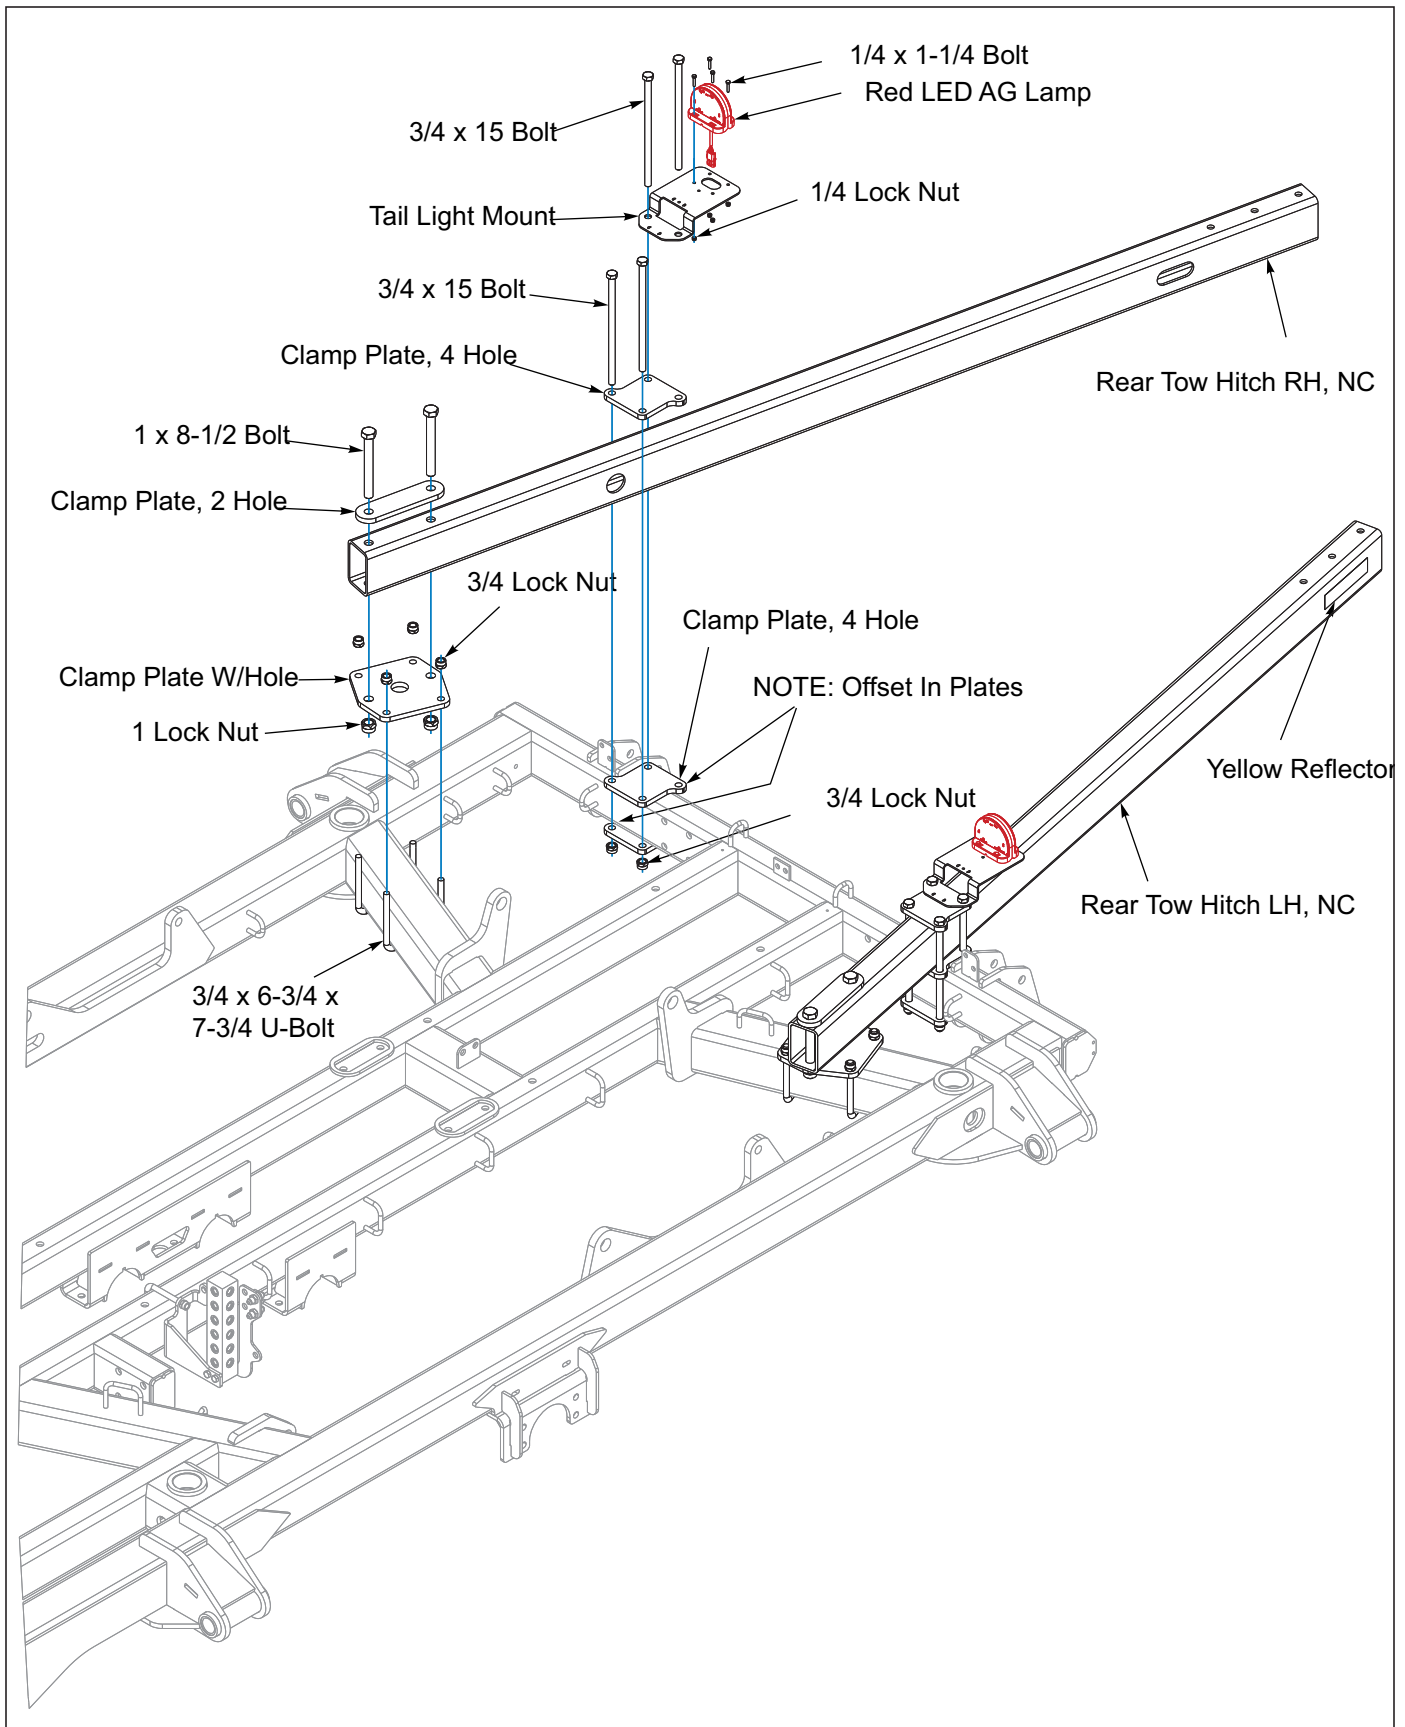
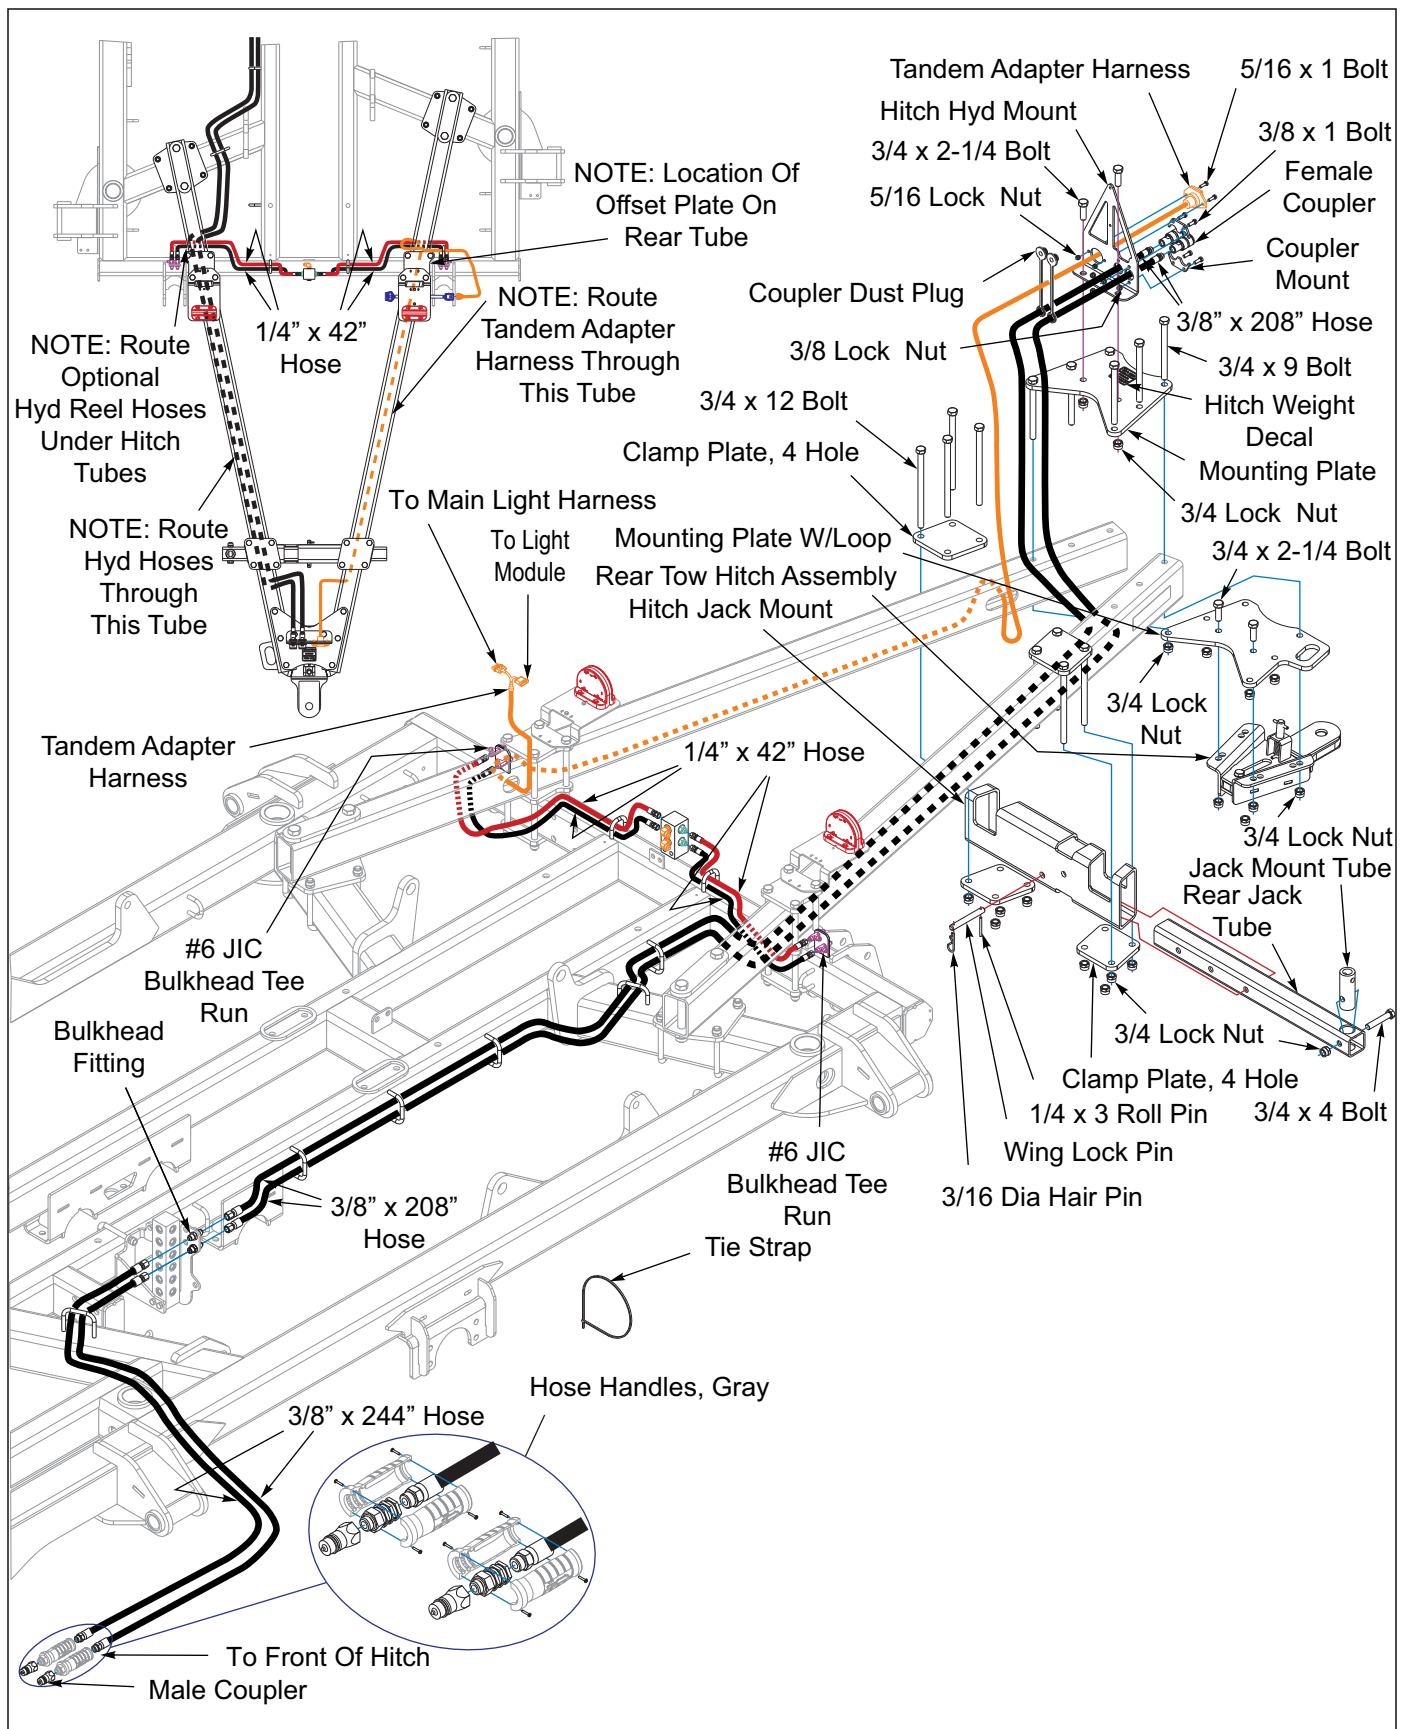
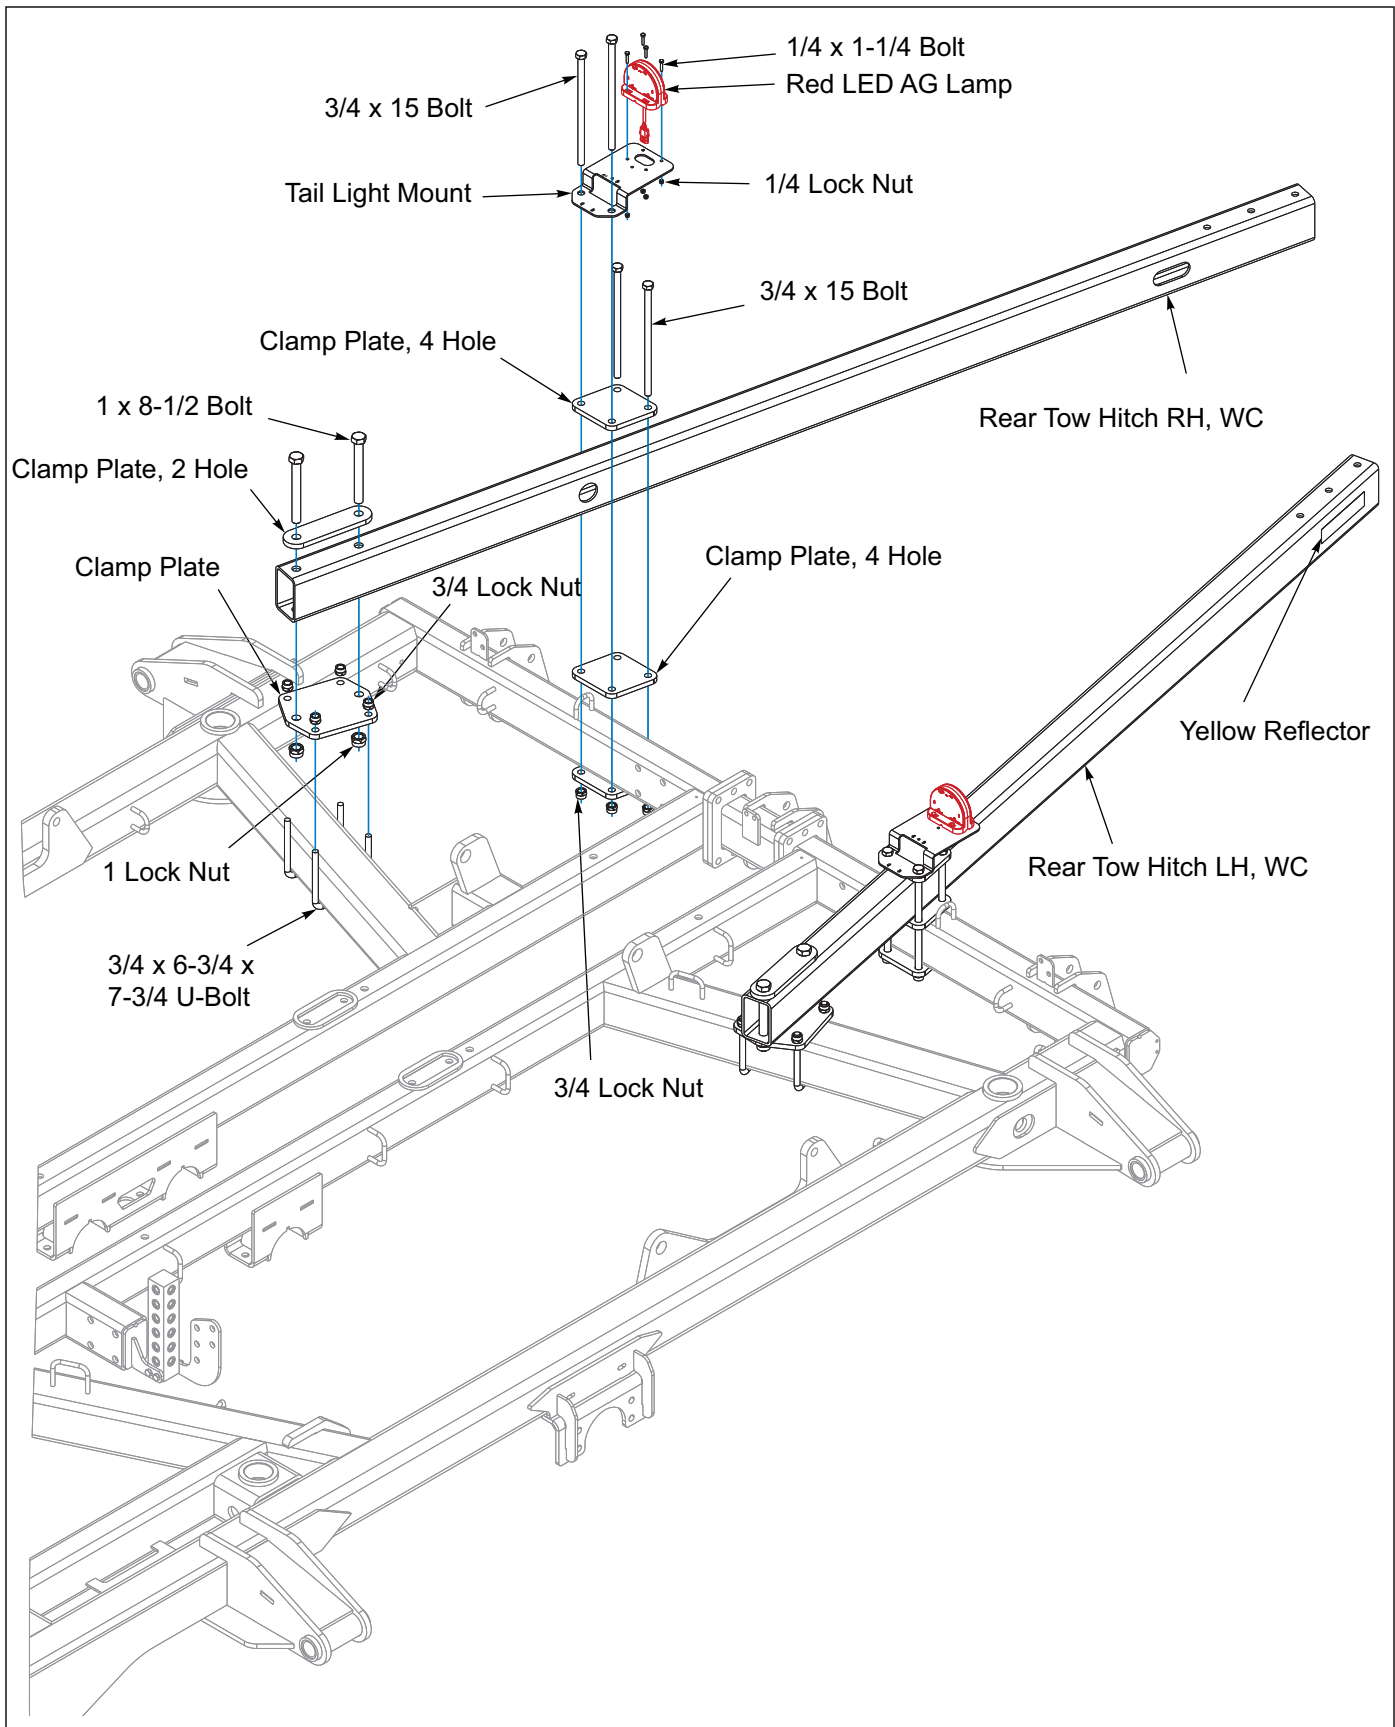
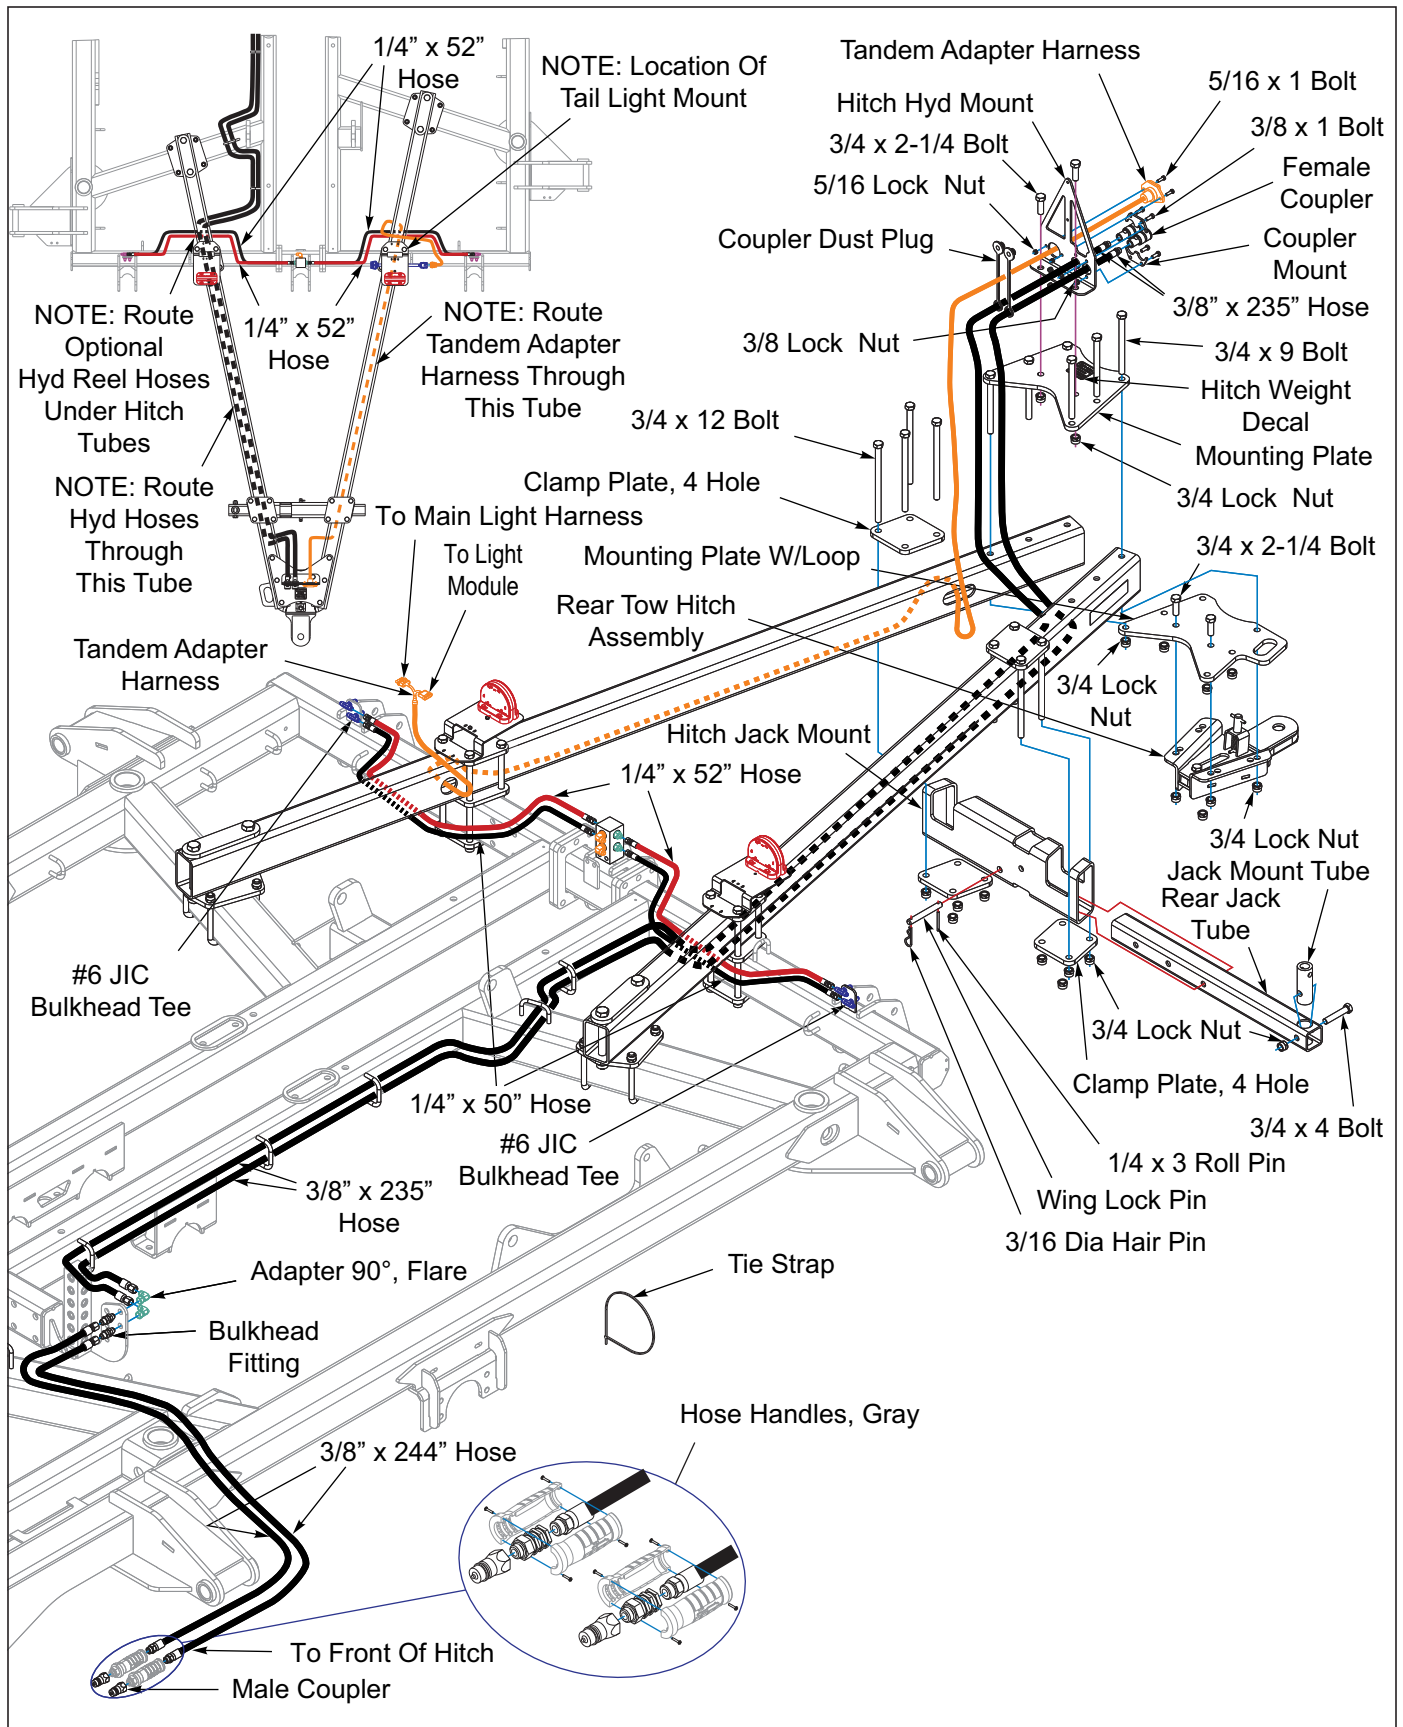

Figure 3-64: Rear Tow Hitch Installation 7531-23'-26'-29' (1 of 2)
Figure 3-65: Rear Tow Hitch Installation 7531-23'-26'-29' (2 of 2)
Figure 3-66: Rear Tow Hitch Installation 7531-23'-35' (1 of 2)
Figure 3-67: Rear Tow Hitch Installation 7531-32'-35' (2 of 2)
The red led ag lamps will need to be removed from rear tube of center frame. The red led ag lamps will be re-installed to the new tail light mounts as shown 7531-23'-26'-29' See Figure 3-66, 7531-32'-35' See Figure 3-67.
Models 7531-23'-26'-29' uses clamp plates, 4 hole that has an offset. position offset in position shown, See Figure 3-64 and See Figure 3-65.
For the following steps, Models 7531-23'-26'-29' See Figure 3-64 and See Figure 3-65, Models 7531-32'-35' See Figure 3-66 and See Figure 3-67.
14. Install bulkhead fittings to manifold plates. Route hydraulic hoses on left side of hitch, through tube and follow hose loops to front as shown. Connect hoses as shown, **Note that Models 7531-23'-26'-29'**, if equipped with hydraulic reels, will require different bulkhead fittings on the center frame arms, and the hoses from the aluminum manifold to the center frame arms will need changed out for 1/4 x 42" hoses that are supplied with the tow hitch, See Figure 3-64 and See Figure 3-65 **Models 7531-32'-35' See Figure 3-66 and See Figure 3-67.**